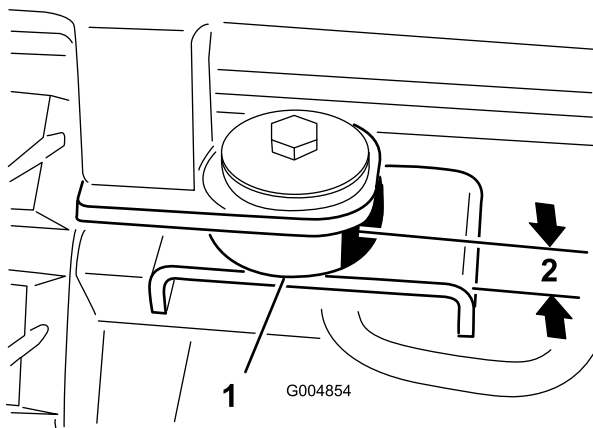

Figure 117
26. At the rear mounting points, secure the cab to the machine with a bolt (1/2 x 3 inches), steel washer (1/2 x 2-1/2 inches), rubber washer (1/2 x 2-1/2 inches) and nut (1/2 inch) (Figure 117). Tighten all four cab mount bolts until the rubber mounts are compressed to a thickness of 7/8 inch (2.2 cm).